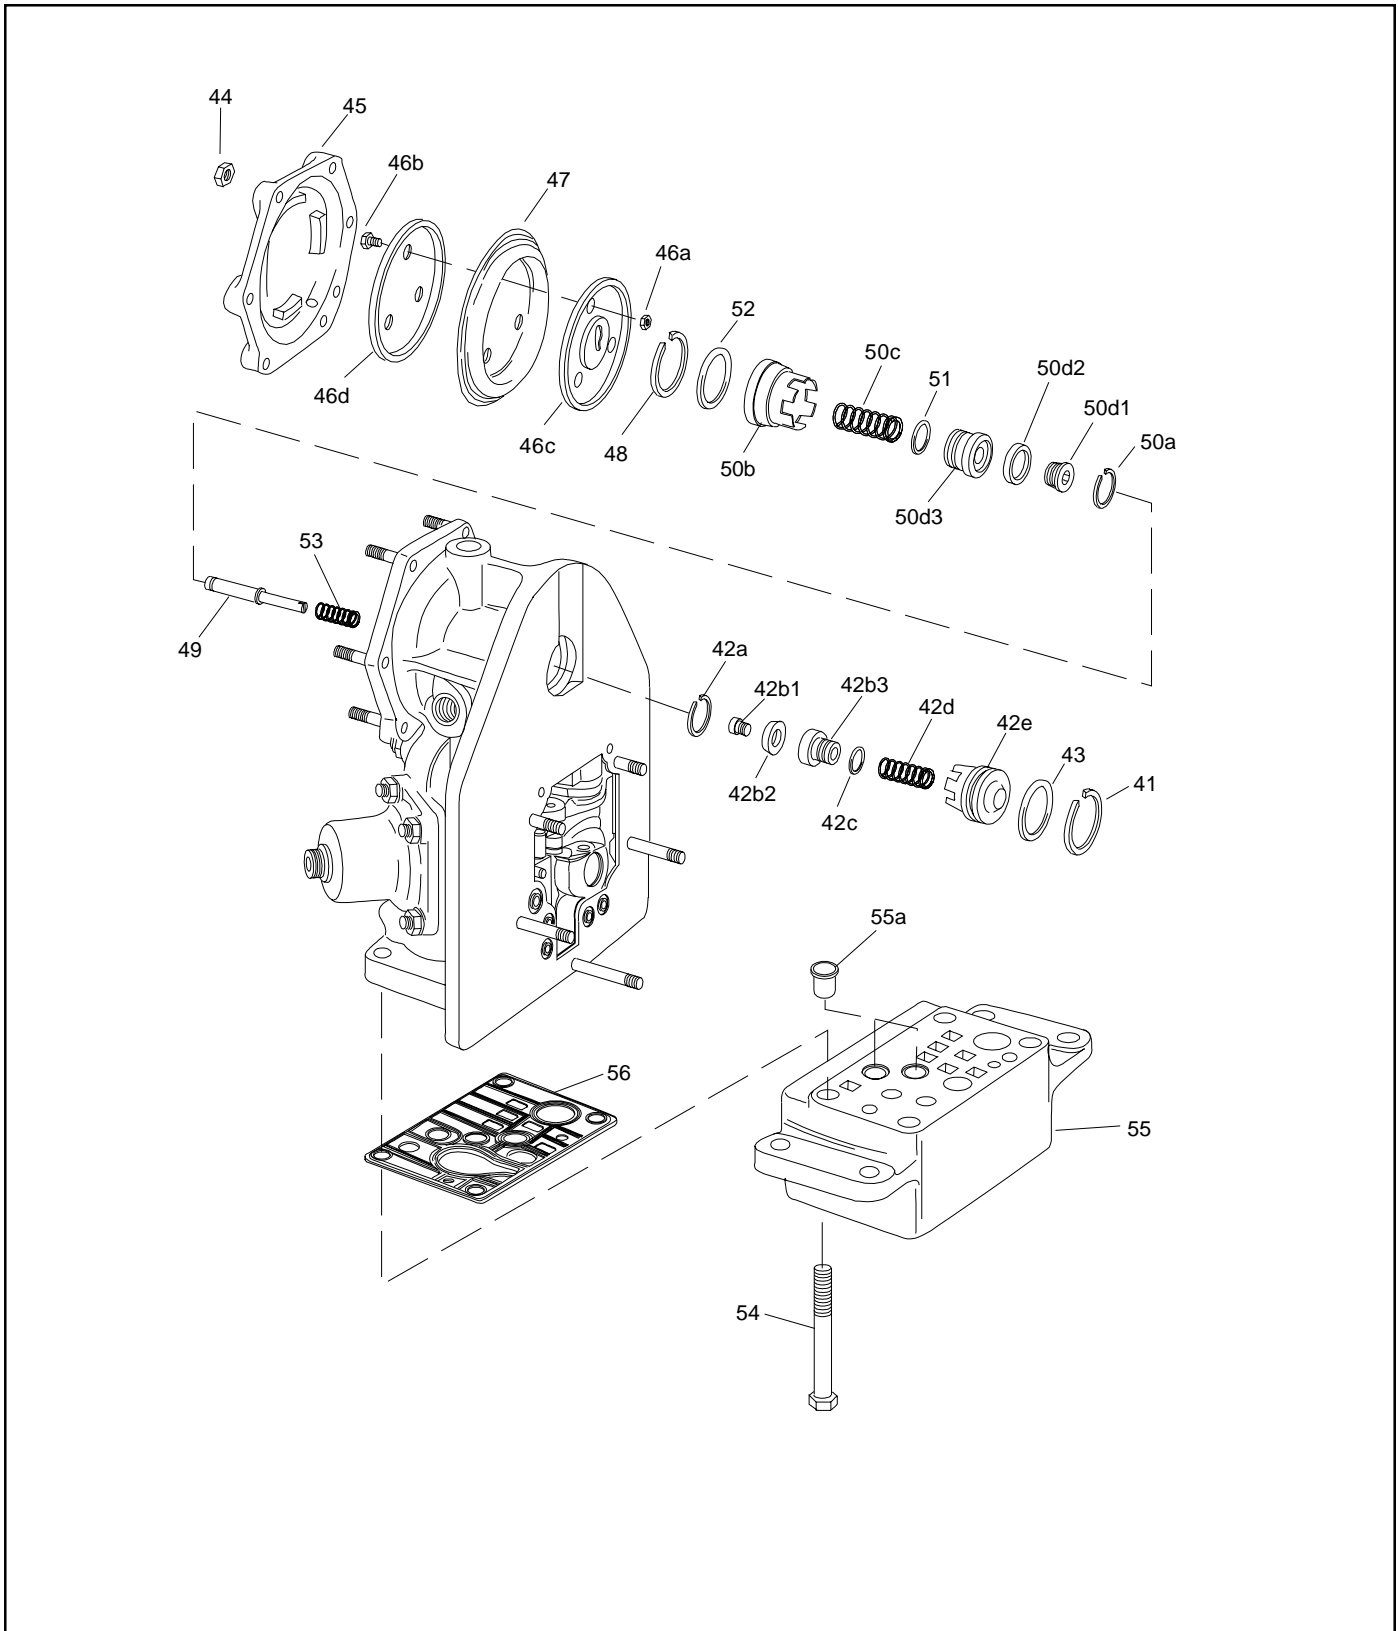

Figure 4 - 26-B-1 Brake Valve
7.2.16 Referring to Figure 4, remove the six $\frac{5}{16}$ " hex nuts (44) and relay valve cover (45).
7.2.16.2 Refer to Figure 4. Carefully remove the diaphragm assembly (46).